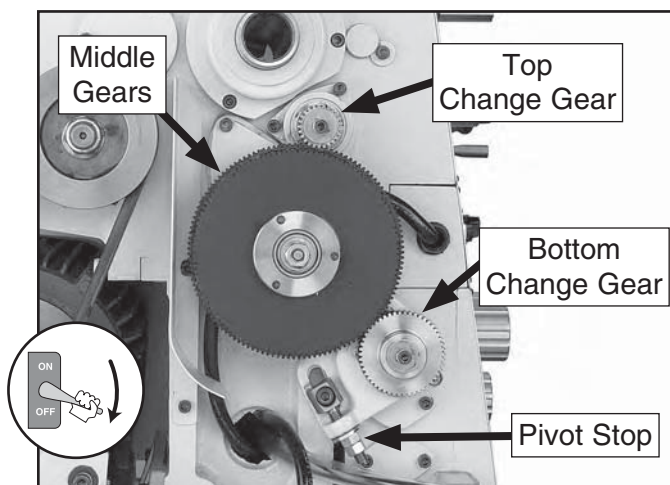

Figure 81. Change gear components.
2. Remove the headstock left cover to access the change gears (see **Figure 81**).